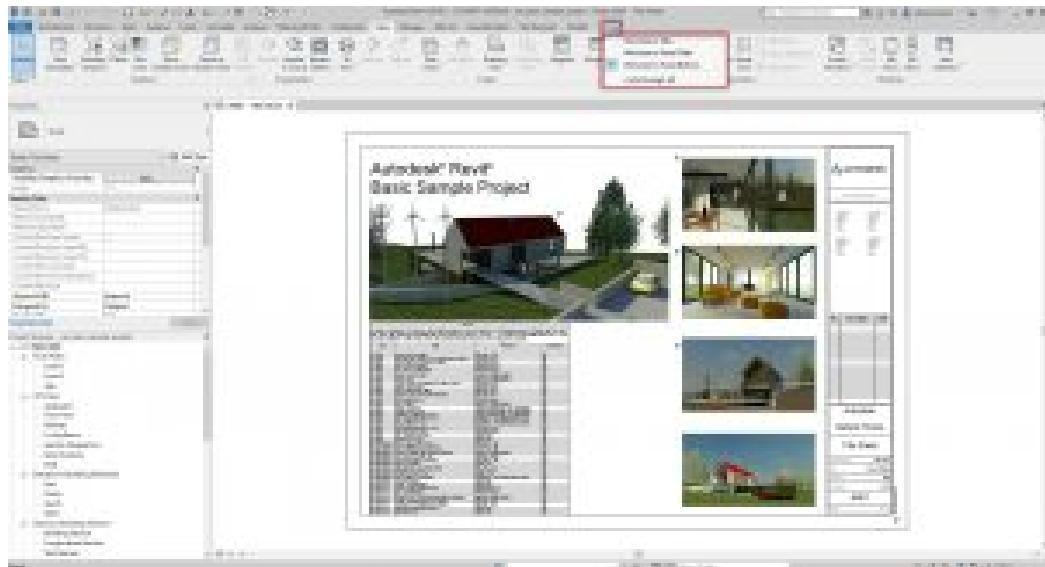

Figure 1.4 Ribbon display options
1. Above the ribbon, to the right of the tabs, click the icon as shown in Figure 1.4